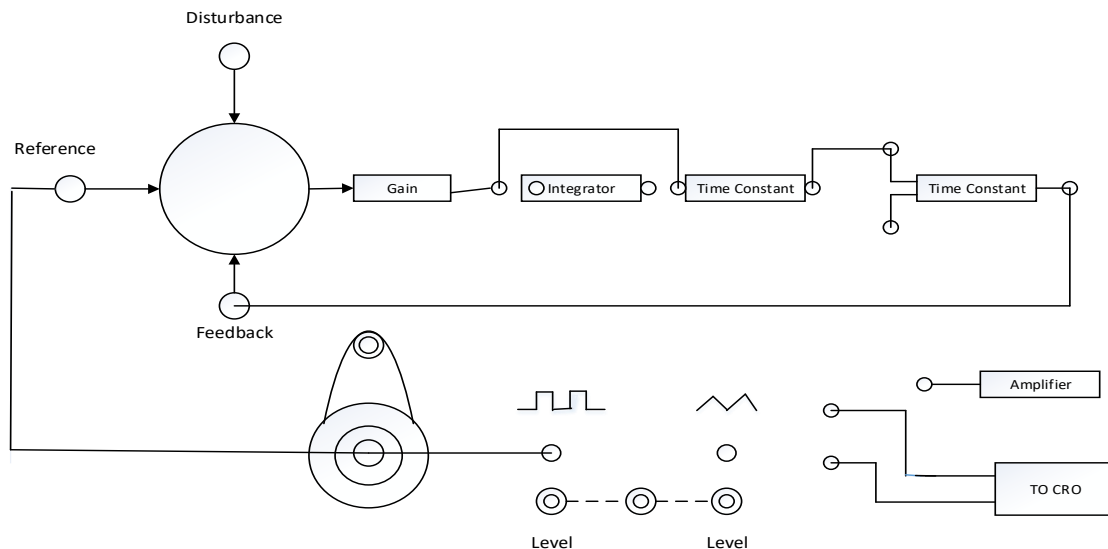

Figure 1 - Time Response of Second Order System
3. Determine the time domain specifications for different zeta values for Figure 1
6. Calculate the different armature currents (i.e i_a equal i_l plus i_f) for shunt motor under various loads for figure1